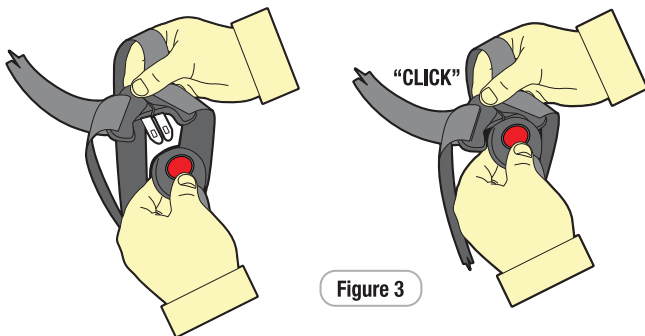

Figure 3
Step 3: Engage and disengage the Harness Tongues and Buckles several times until a strong audible **“CLICK”** is heard when inserting the last tongue (refer Figure 3).